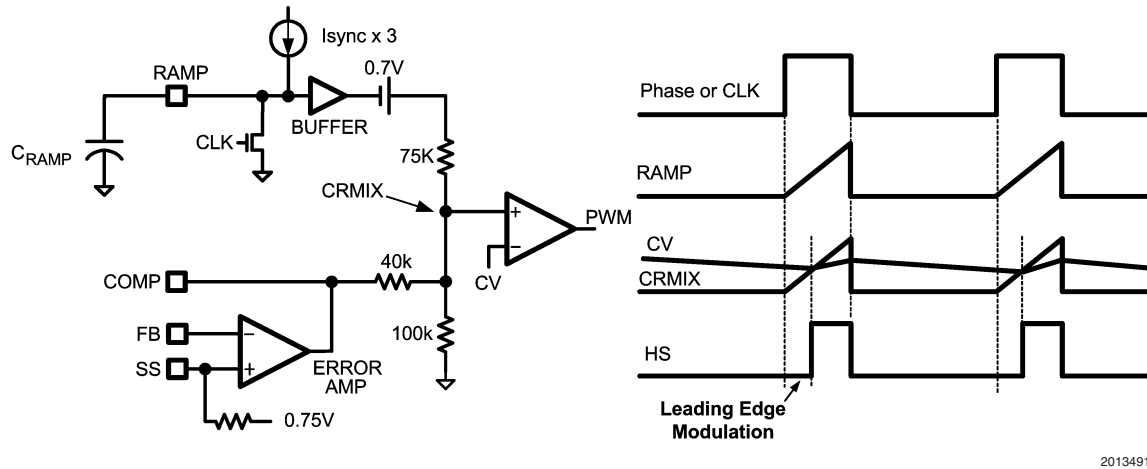
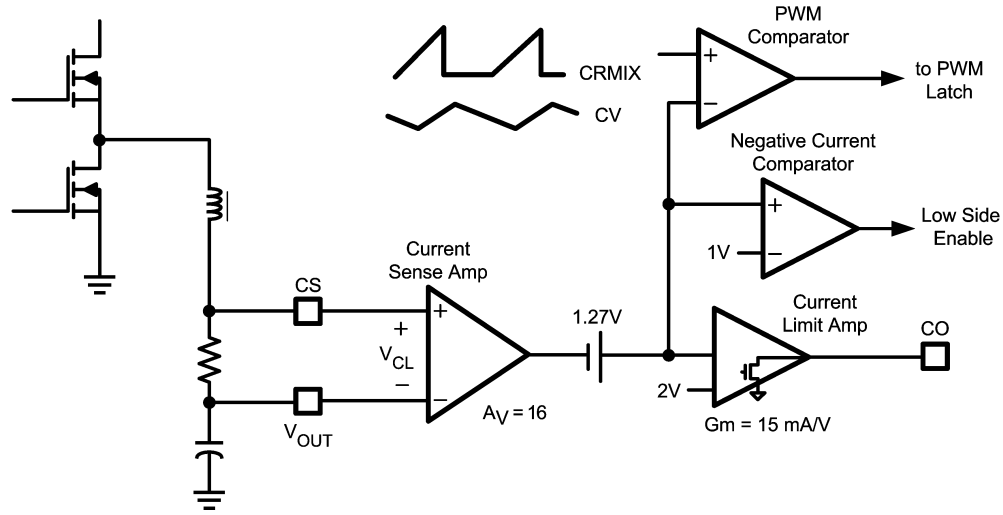

FIGURE 4. Synchronization and Leading Edge Modulation
FIGURE 6. Current Sensing and Limiting
the capacitor connected to the RAMP pin as shown in *Figure 4*. The ramp signal and the output of the error amplifier (COMP) are combined through a resistor network to produce a voltage ramp with variable dc offset (CRMIX in *Figure 4*). The high side MOSFET which drives the HS pin is held in the off state at the beginning of the phase signal. When the voltage of CRMIX exceeds the internal threshold voltage CV, the PWM comparator turns on the high side MOSFET. The HS pin rises and the MOSFET delivers current from the main converter phase signal to the output of the auxiliary regulator. The PWM cycle ends when the phase signal falls and power is no longer supplied to the drain of the high side MOSFET.
The LM5115 controller uniquely combines elements and benefits of current mode control in a voltage mode PWM controller. The current sense amplifier shown in *Figure 6* monitors the inductor current as it flows through a sense resistor connected between CS and VOUT. The voltage gain
of the sense amplifier is nominally equal to 16. The current sense output signal is shifted by 1.27V to produce the internal CV reference signal. The CV signal is applied to the negative input of the PWM comparator and compared to CRMIX as illustrated in *Figure 4*. Thus the PWM threshold of the voltage mode controller (CV) varies with the instantaneous inductor current.
Current limiting is implemented through the current sense amplifier as illustrated in *Figure 6*. The current sense amplifier monitors the inductor current that flows through a sense resistor connected between CS and VOUT. The voltage gain of the current sense amplifier is nominally equal to 16. The output of current sense signal is shifted by 1.27V to produce the internal CV reference signal. The CV signal drives a current limit amplifier with nominal transconductance of 16mA/V. The current limit amplifier has an open drain (sink only) output stage and its output pin CO is typically connected to the COMP pin. During normal operation, the voltage error amplifier controls the COMP pin voltage which adjusts the PWM duty cycle by varying the internal CRMIX level (*Figure 4*). However, when the current sense input voltage V_{CL} exceeds 45mV, the current limit amplifier pulls down on COMP through the CO pin. Pulling COMP low reduces the CRMIX signal below the CV signal level. When CRMIX does not exceed the CV signal, the PWM comparator inhibits output pulses until the CRMIX signal increases to a normal operating level.
When inductor current flows from the regulator output through the low side MOSFET, the input to the current sense comparator becomes negative. The intent of the negative current comparator is to protect the low side MOSFET from excessive currents. Negative current can lead to large negative voltage spikes on the output at turn off which can damage circuitry powered by the output. The negative current comparator threshold is sufficiently negative to allow inductor current to reverse at no load or light load conditions. It is not intended to support discontinuous conduction mode with diode emulation by the low side MOSFET. The negative current comparator shown illustrated in *Figure 6* monitors the CV signal and compares this signal to a fixed 1V threshold. This corresponds to a negative V_{CL} voltage between CS and VOUT of -17mV. The negative current limit comparator turns off the low side MOSFET for the remainder of the cycle when the V_{CL} input falls below this threshold.
Both drivers are controlled by the PWM logic signal from the PWM latch. When the phase signal is low, the outputs are held in the reset state with the low side MOSFET on and the high side MOSFET off. When the phase signal switches to the high state, the PWM latch reset signal is de-asserted. The high side MOSFET remains off until the PWM latch is set by the PWM comparator (CRMIX > CV as shown in *Figure 4*). When the PWM latch is set, the LO driver turns off the low side MOSFET and the HO driver turns on the high side MOSFET. The high side pulse is terminated when the phase signal falls and SYNC input comparator resets the PWM latch.